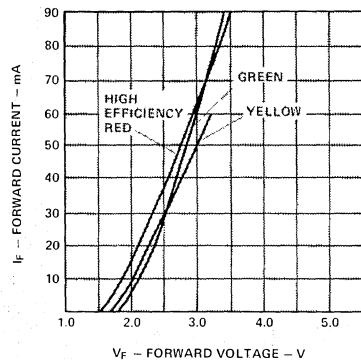

Figure 4. Forward Current vs. Forward Voltage
- Derate from  $T_A = 50^\circ\text{C}$  at 0.086 V/°C, see Figure 4.